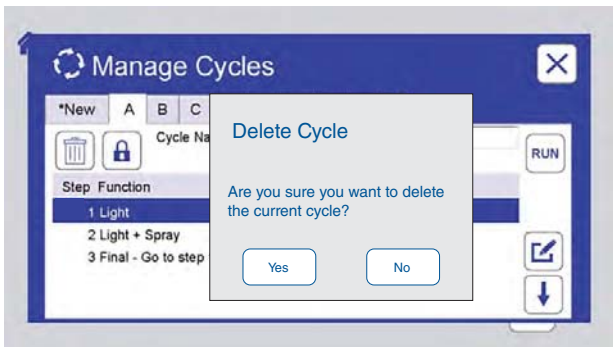

Figure 10.6.2c: To delete an inactive cycle, the operator is prompted for verification. Touch No to cancel delete. Touch Yes to create a blank cycle.
- Delete a cycle (Figure 10.6.2a through Figure 10.6.2c).